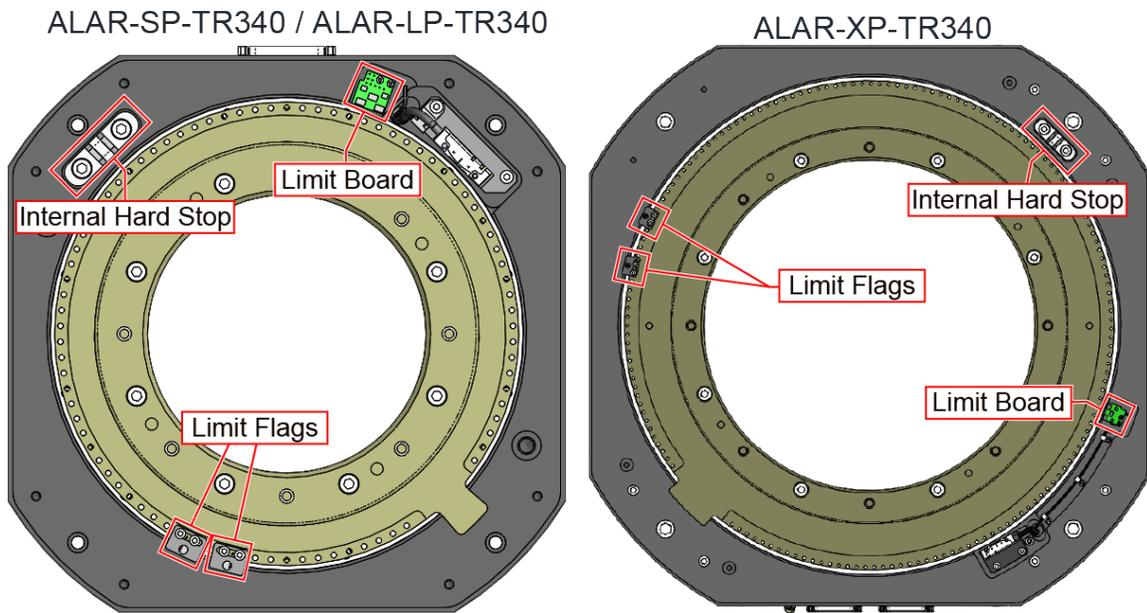

Figure 2-15: ALAR Limit Flag Adjustment
IMPORTANT: The internal hard stop can be used as a reference point while setting up the external hard stops but should be removed prior to running the stage. Refer to Figure 2-15.
2. Remove the [QTY. 8] button head cap screws to remove the top covers from the stage (refer to Figure 2-15).